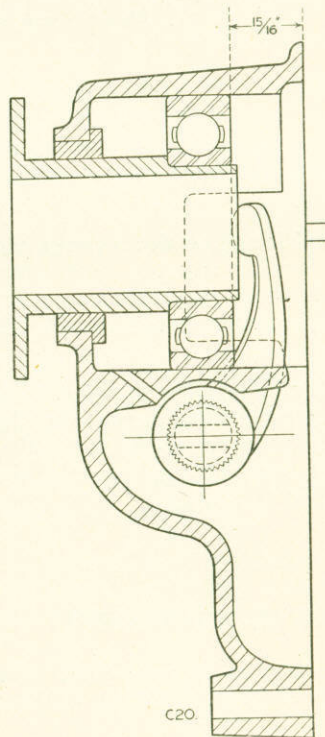

Fig. B-6—
4. Place the withdrawal fork and thrust washer in position in the housing and slide in the cross-shaft from left to right. When the rear face of the thrust bearing is set to $\frac{15}{16}$ in. — $\frac{1}{16}$ from the joint face of the housing and the fork is resting against the bearing, the hole in the shaft should be horizontal (Fig. B-6).
2. Place the withdrawal fork and inner thrust washer in position in the housing and slide in the cross-shaft from the left. When the rear face of the thrust bearing is set to $\frac{15}{16}$ in. — $\frac{1}{16}$ from the joint face of the housing and the fork is resting against the bearing, the hole in the shaft should be horizontal (Fig. B-6).